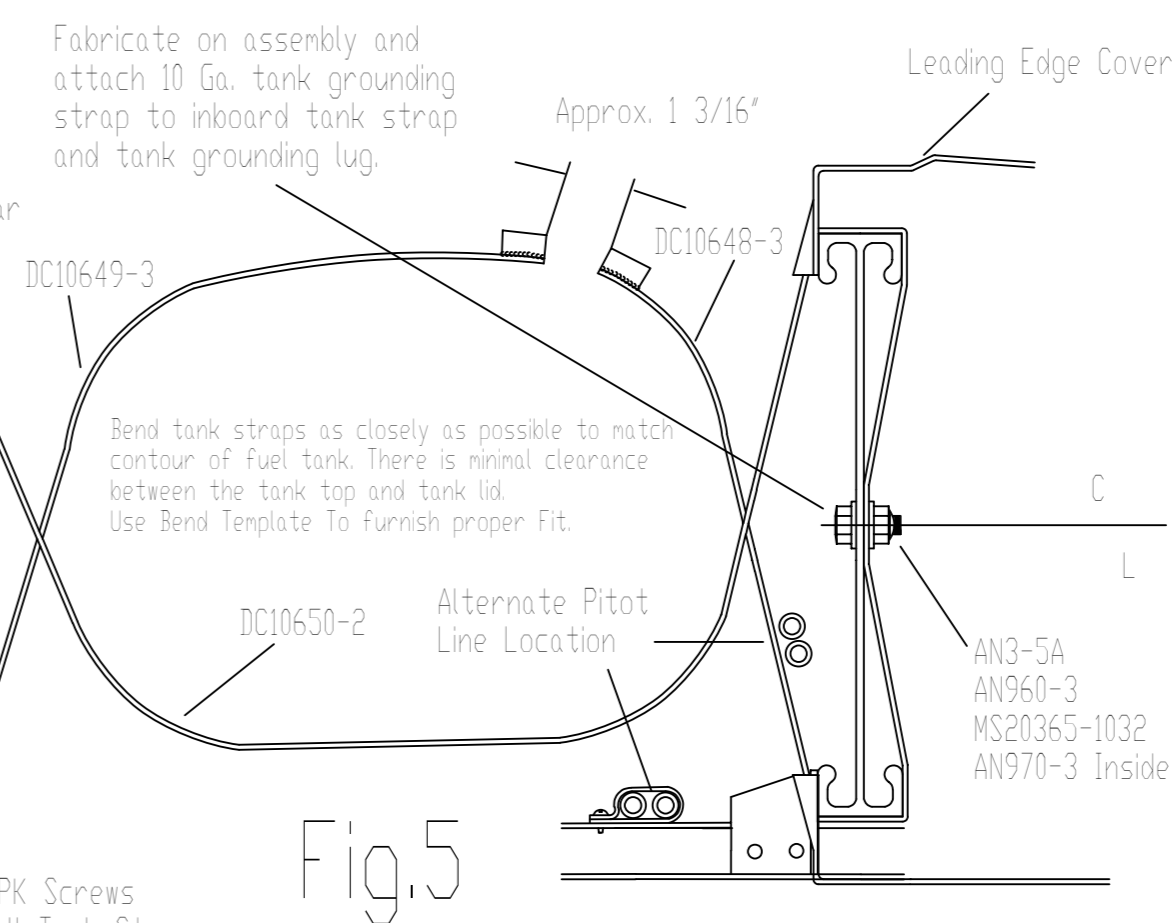

Fig.5
- 7- Install tank strap assemblies to dimensions indicated in Figs.2 & 6. Fig.5 details strap part numbers and locations with fastener call-out.
- 8- Install Pitot lines as previously installed. Alternate line routing aft of front spar web, ahead of and tied off to tank strap DC10649-3 as shown in Fig.5. Anti-chaffle Pitot line at oil contact points.